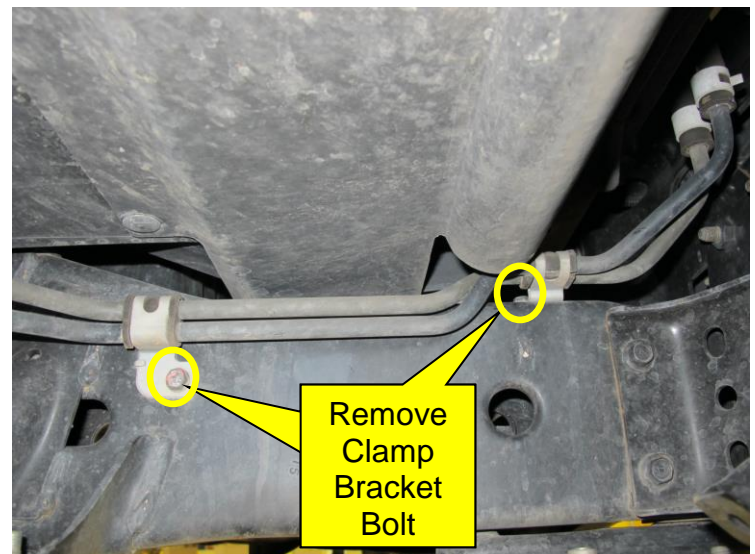

Figure 5
- Remove the two power steering pipe clamp bracket bolts from the driver's side front frame rail (Figure 5).